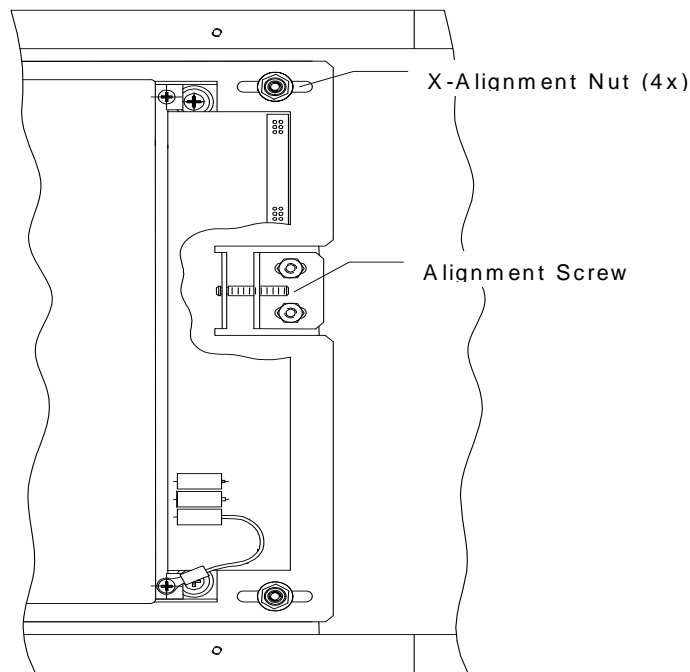

Figure 4-7. Array Assembly - Top View, Partial
13. At the Array assembly, loosen the four X-alignment nuts (see Figure 4-7 above).